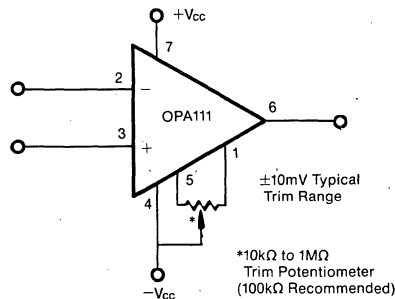

FIGURE 4. Offset Voltage Trim.
8.1 Offset voltage adjustment. Although the OPA111/883B Series has a low initial offset voltage ($500\mu\text{V}$), some applications may require external nulling of this small offset. Figure 4 shows the recommended circuit for adjustment of the offset voltage. External offset voltage adjustment changes the laser-adjusted offset-voltage temperature drift slightly. The drift will change approximately $0.3\mu\text{V}/^\circ\text{C}$ for every $100\mu\text{V}$ of offset adjustment.